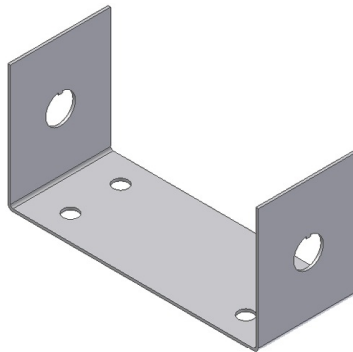

Figure 15-113 Sheet metal component after creating the keyways
7. Similarly, define a new sketch plane on the outer face of the left flange and then project the last sketch point on this face. Using this projected point, create the keyway on the left flange. The model after creating both keyways is shown in Figure 15-113.